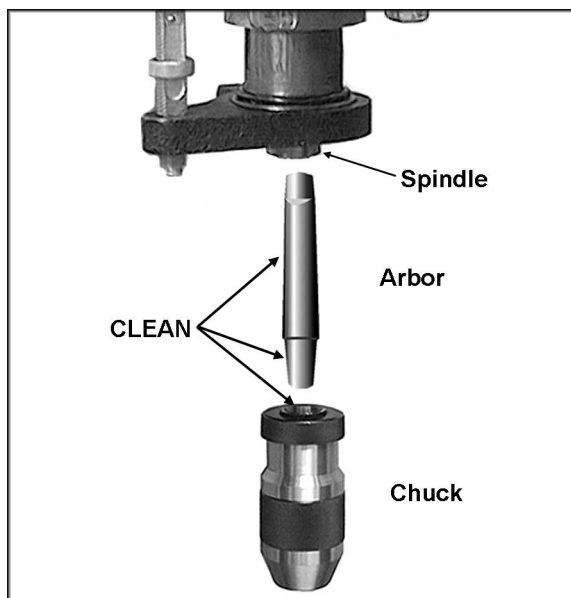

Figure 9
2. Thoroughly clean the entire arbor and the inside of the chuck (Figure 9) with a soft rag and solvent such as mineral spirits. Any grease or residue in these areas can cause the pieces to separate and create a safety hazard as well as damage to the tool.